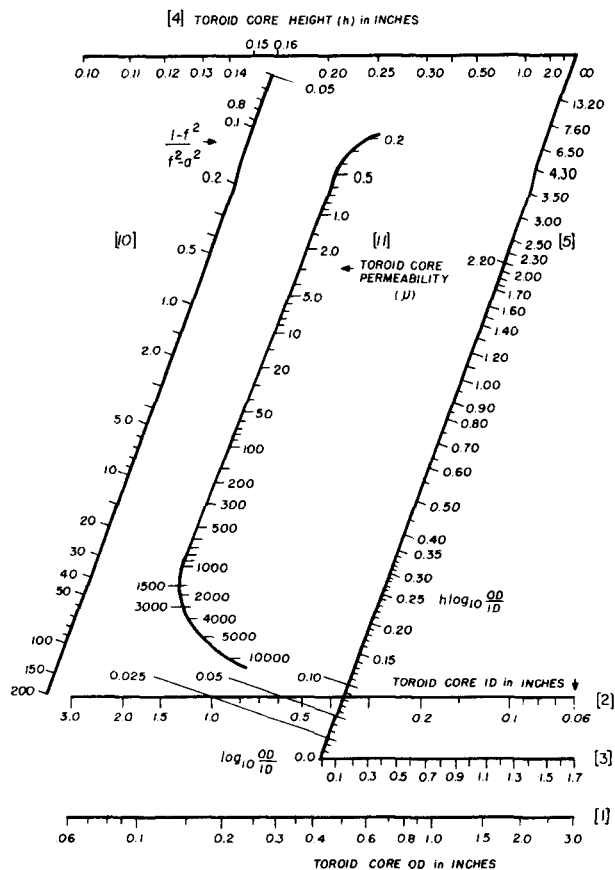

fig. 4. Nomogram for toroid dimensions and core permeability.
As mentioned earlier, for those who don't have calculators with a logarithm capability, or inductance bridges or Q Meters to obtain the unknown toroid permeability, figs. 4 and 5 comprise a nomogram to use for this purpose. The unknown toroid dimensions and grid-dip oscillator frequency-dip readings are required as input to the nomogram. Eq. 3 for the permeability, μ , slightly modified as in eq. 5, is the basic equation from which the nomogram is constructed. If your permeability meter is about the same size as mine, the constant, k , will be about 10, as seen from table 1. For other sizes of instruments, and thus other values of k , corresponding adjustments can be made in the nomogram as explained below.
where $f = f_{COR}/f_{HI}$, and the other quantities are as defined earlier. The nomogram in figs. 4 and 5 will yield permeabilities of unknown toroid cores for corresponding sets of h , OD , ID , a , and f values.
1. Beginning on fig. 4 nomogram, with a transparent straightedge, find the value of the unknown toroid core OD on line 1 and its ID on line 2. Span these values and lightly mark where the straightedge crosses line 3.
5. Noting the value on line 10, find the same value on the diagonal line 10 on the fig. 4 nomogram.
6. Span from the fig. 4 line 10 value to the diagonal line 5 value on the same figure. Mark where the straightedge crosses the permeability line 11.
What you have really found on line 11 of fig. 4 is $\mu - 1$ but for all except the smallest values of permeability, the above line 11 mark is essentially the permeability (within the accuracy of the instrument and the nomogram procedure). For small permeability values near one, merely add one to the value found on line 11.
1. On fig. 4 span from an OD of 1.375 inch (35mm) on line 1 to an ID of 0.94 inch (24mm) on line 2. This yields 0.15 on line 3.
5. Go back to the fig. 4 nomogram. Find 1.5 on diagonal line 10. With 1.5 on diagonal line 10 and 0.14 on diagonal line 5, which you obtained from step 2, note that the straightedge span between these two numbers crosses the diagonal line 11 at about 90, which is the permeability of this core.
THE SKETCHES BELOW ARE A PICTORIAL DESCRIPTION OF STEP-BY-STEP USE OF THE NOMOGRAMS IN FIGS. 4 AND 5.